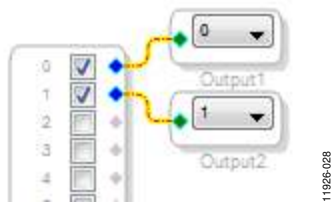

Figure 26. Connected Signal Flow with Stereo Input and Stereo Output
3. Connect each **Input** channel to its corresponding **Output** channel by clicking and dragging a line, representing a wire, between the blue pin of the **Input** channel and the green pin of the **Output** channel (see Figure 26). (Input Channel 0 connects to Output Channel 0, and Input Channel 1 connects to Output Channel 1.)